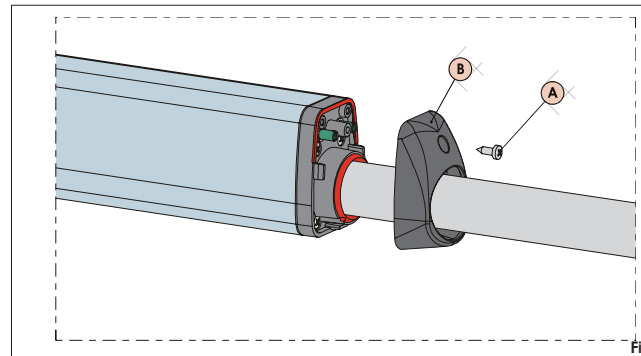

Fig. 18
- 1) Unscrew the upper fastening screw, Fig.18 ref.A, and remove the cap, Fig.18 ref.B.
- 5) Reposition the cap, Fig.18 ref.B, and tighten the fastening screw again, Fig.18 ref.A.